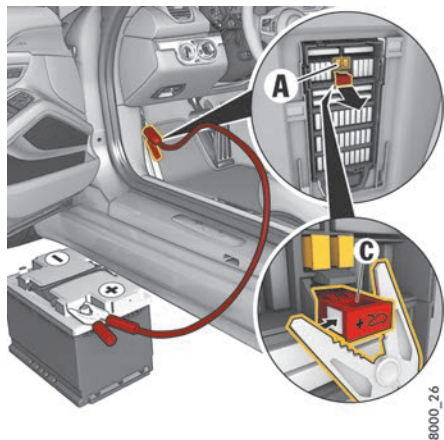

Fig. 125: Performing emergency release of luggage compartment lid – connecting positive terminal
8. Push positive terminal **C** (Fig. 125) into the fuse box and fit the plastic fuse box cover.